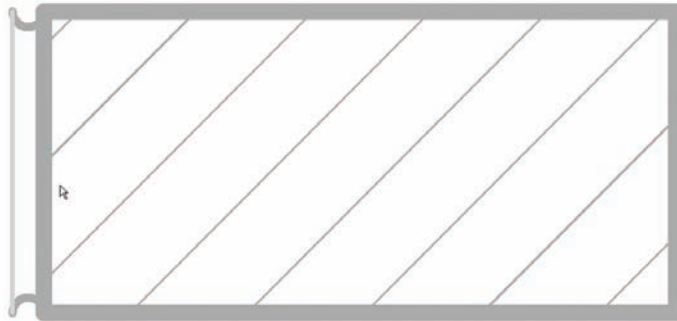

FIGURE 12.18 Deleting the four lines
3. Select all four lines that make up the brick (the long horizontal lines) and delete them, as shown in Figure 12.18.